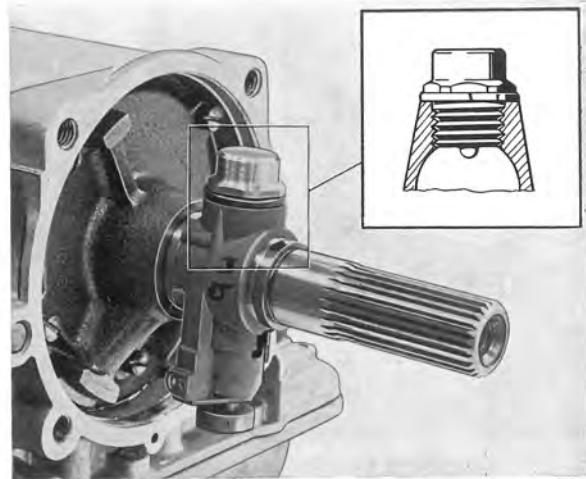

Fig. 4-102. Governor and driven shaft
5. Push the governor onto the shaft as shown in Fig. 4-102. Make sure that the pin on the bolt enters the recess on the shaft. Tighten the bolt to a torque of 20—25 Nm (15—18 lbft). This tightening torque should not be exceeded.